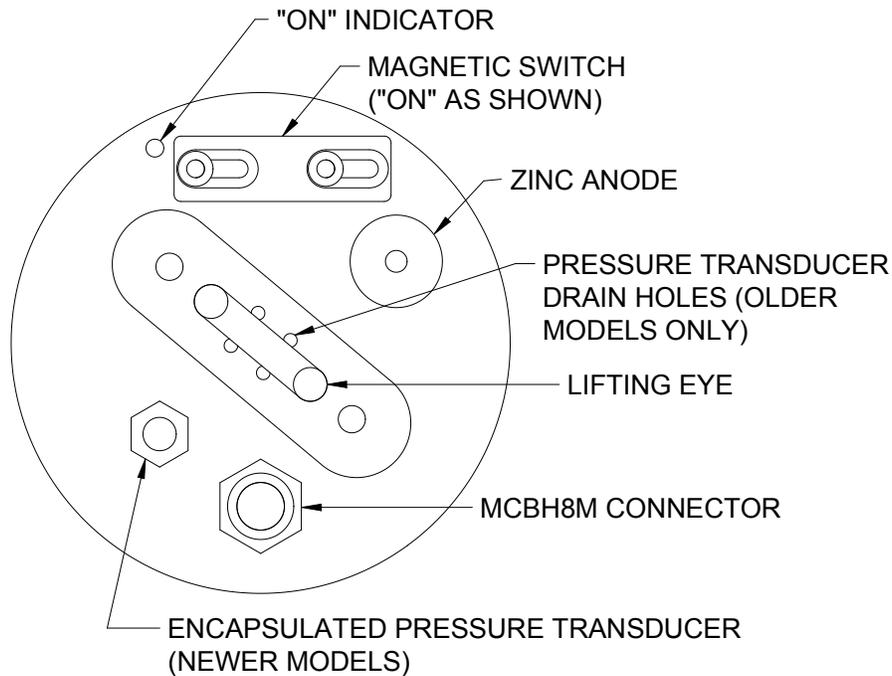

Figure 3 HydroScat-2 Back End Cap
If your HydroScat-2 has an encapsulated pressure transducer with a plastic wick attached, use care to ensure the wick is not damaged so as to allow the silicone oil to leak out. If your HydroScat-2 has the older style of transducer under the suspension eye (see Figure 3 on page 4), flush the pressure transducer with fresh water when rinsing the instrument. If possible, spray water directly into the drain holes, but not at very high pressure.
- 28) To start a cast when the HydroScat is asleep and disconnected from the computer, move the magnetic switch to the on position (see Figure 3 on page 4).